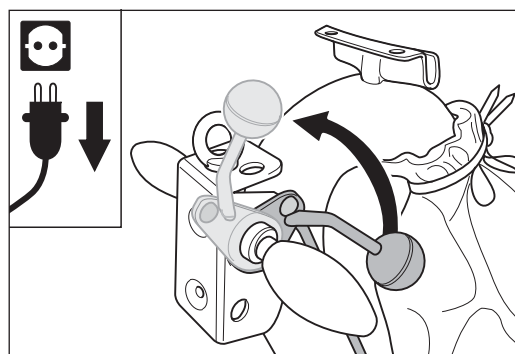

Fig. 57 Lift the sanding drum off the floor by turning the lowering lever at the handle upwards.
- 1 Lift the sanding drum off the floor by turning the lowering lever at the handle upwards (Fig. 57).